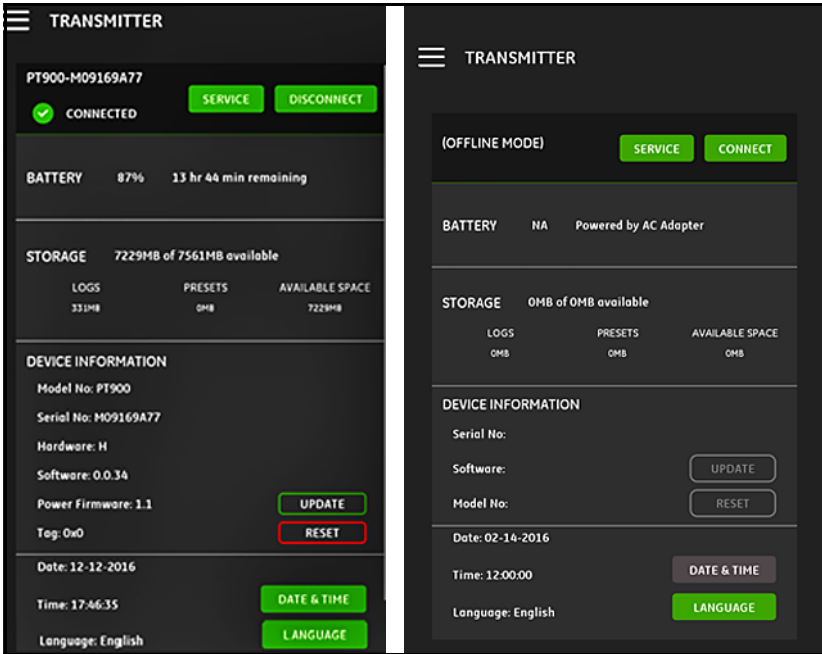

Figure 103: CONNECTED (Left) and OFFLINE (Right) Menus
Important: *Before creating a new log, be sure to synchronize the transmitter and the tablet time settings by clicking the **DATE & TIME** button in the **TRANSMITTER** menu (see Figure 103 on page 110).*
1. Be sure the transmitter and tablet time settings are synchronized by setting the transmitter time in the **TRANSMITTER > DATE & TIME** menu (see *Figure 103 on page 110*).
If a PT900 transmitter is **CONNECTED** to the tablet APP via *Bluetooth*, the **TRANSMITTER** menu shows device information about the PT900 transmitter, the battery and the memory usage. However, if the connection is **OFFLINE**, this information is unavailable. See examples of both possibilities in *Figure 103* below.
7. Go to the **TRANSMITTER** menu (see *Figure 103* on page 110) and verify that the device information is correct.